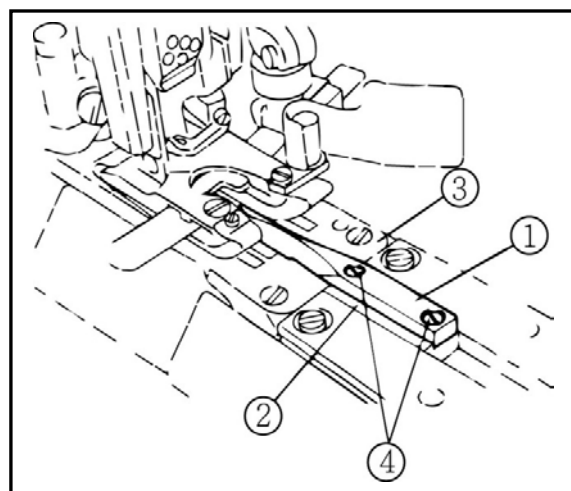

Fig. 35
Set the position where the lap former slide block ② touches and stops in the front of the needle plate ③. (Fig.35)